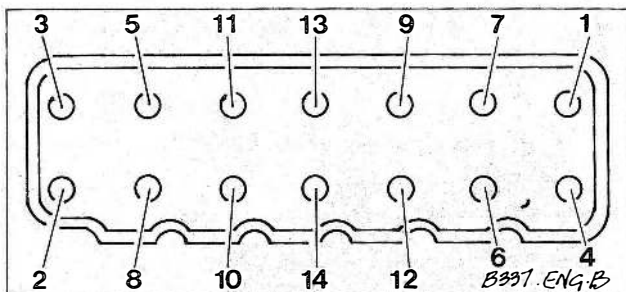

Fig. 4-62. Cylinder head bolt loosening sequence.
24. Gradually and evenly loosen and remove the cylinder head bolts using the sequence shown in Fig. 4-62. Carefully remove the cylinder head, making sure all wires, hoses, and fittings are free and clear of the cylinder head. If the head is stuck, use a soft-faced mallet or pry gently with a wooden stick.